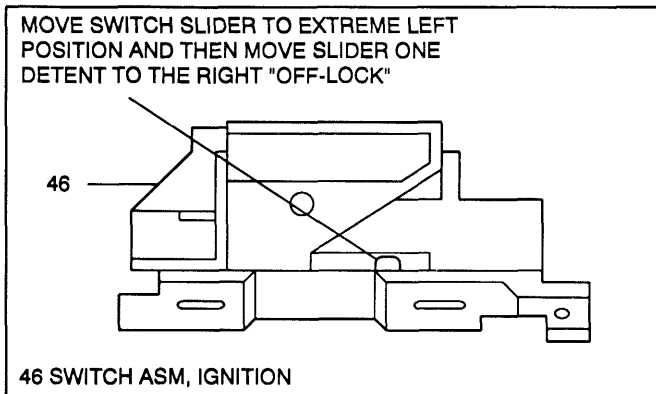

Figure 13 - Adjusting Ignition Switch
NOTICE: Install ignition switch (46) to jacket (45) with switch in "OFF-LOCK" position. (See Figure 13) New ignition switch will be pinned in "OFF-LOCK" position. Remove plastic pin after switch is assembled to column. Failure to do so may cause switch damage.
- Ignition switch assembly (46). (See Figure 13)
10. Ignition switch assembly (46) and dimmer & ignition switch mounting stud (47).